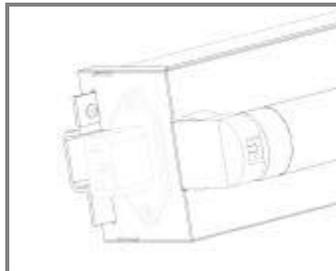

Figure 2
7. A sheet metal screw or other fastener should be installed at the far end of the rail to serve as the stop, **Figure 2**.